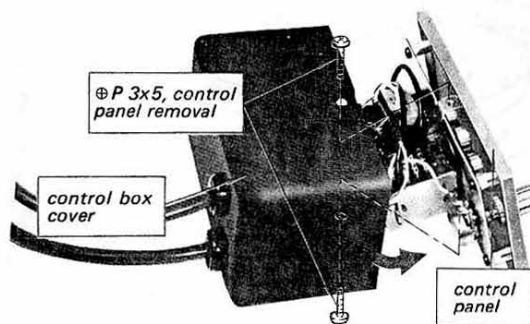

Fig. 2-8. Control box disassembly (2)
2. Remove the two screws shown in Fig. 2-8. This frees the control switch mechanism together with control panel as shown in Fig. 2-8.